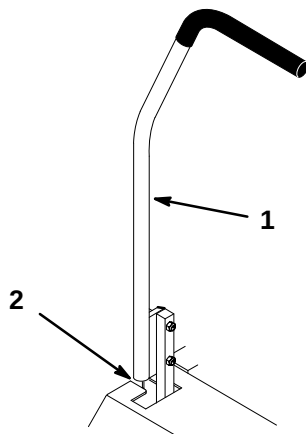

Figure 50
3. Check where lever is relative to notch in console (should be centered allowing lever to pivot outward to the neutral lock position (Fig. 50).